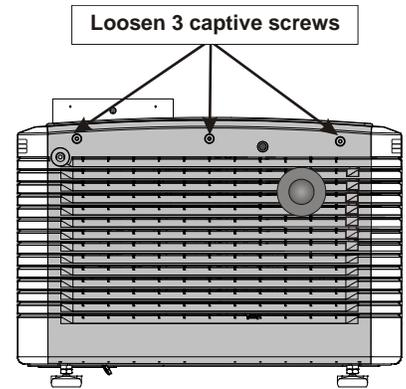

Figure 5-5 Remove Back Cover
1. Using a #2 Phillips™, loosen the three captive screws securing the back cover to the chassis (Figure 5-5).